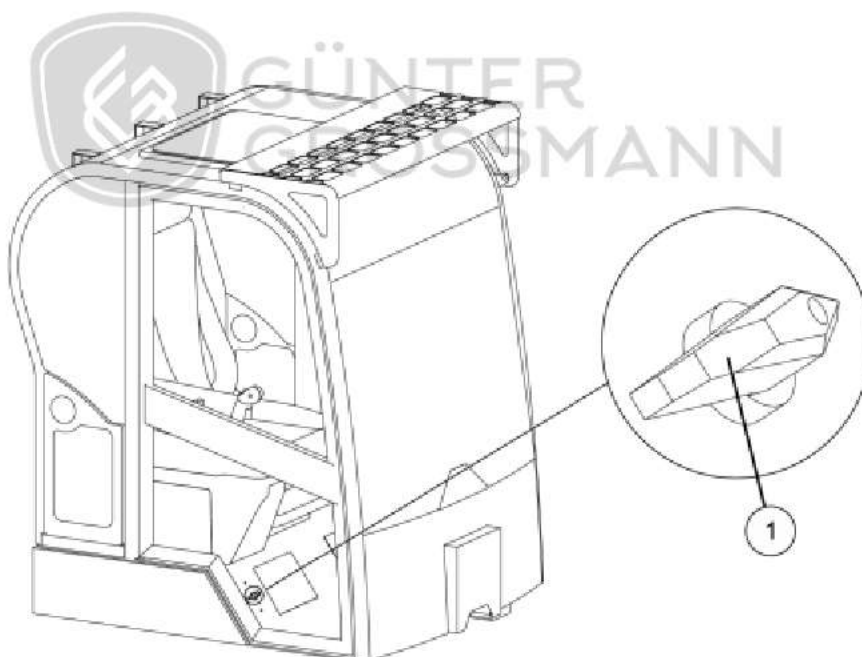

Figure 5-21 Cab
When the temperature is higher than 6°C, the operation steps of the loader start are as follows: Step 1: Turn on the power switch (1) in the cab, as shown in Figure 5-21;